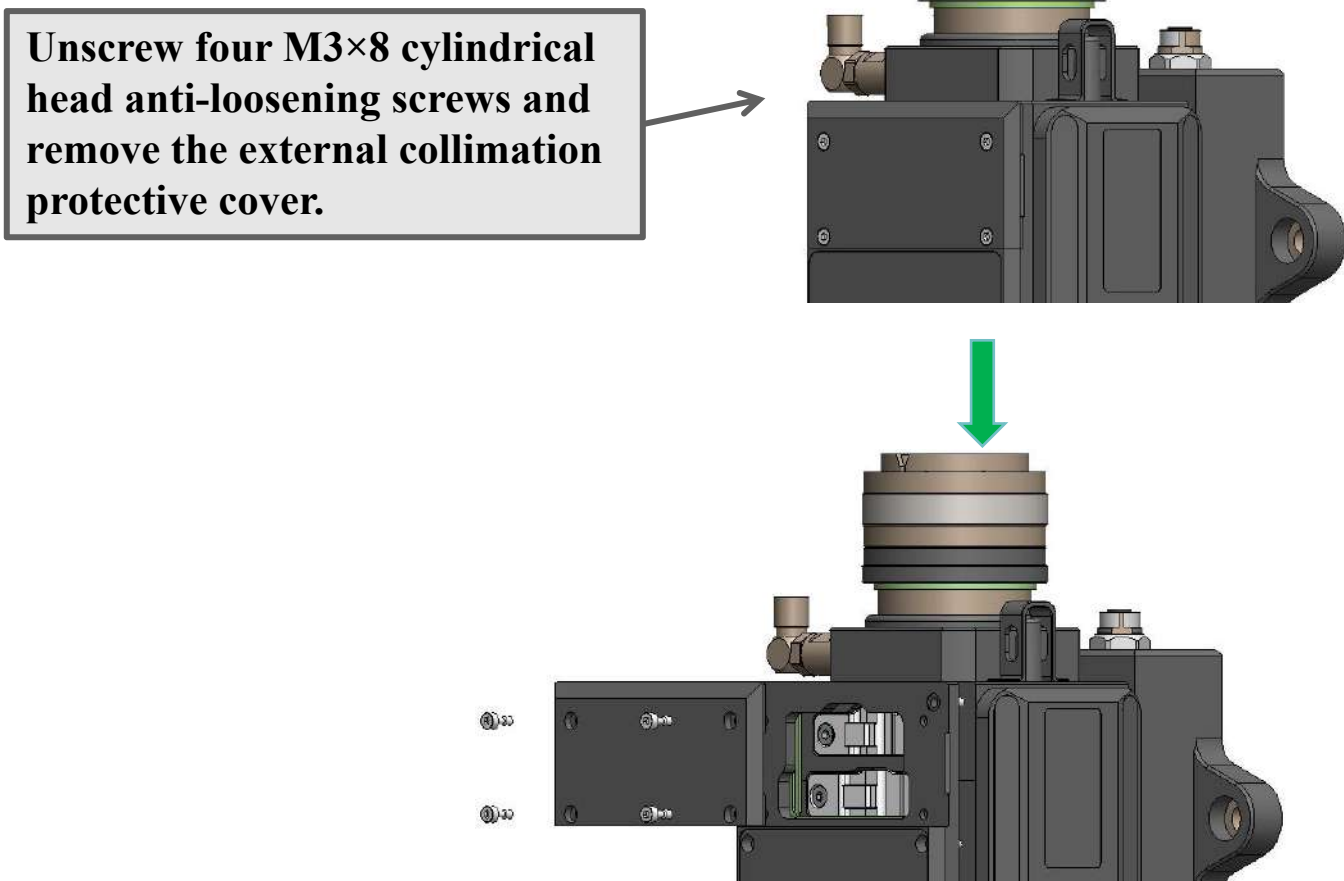
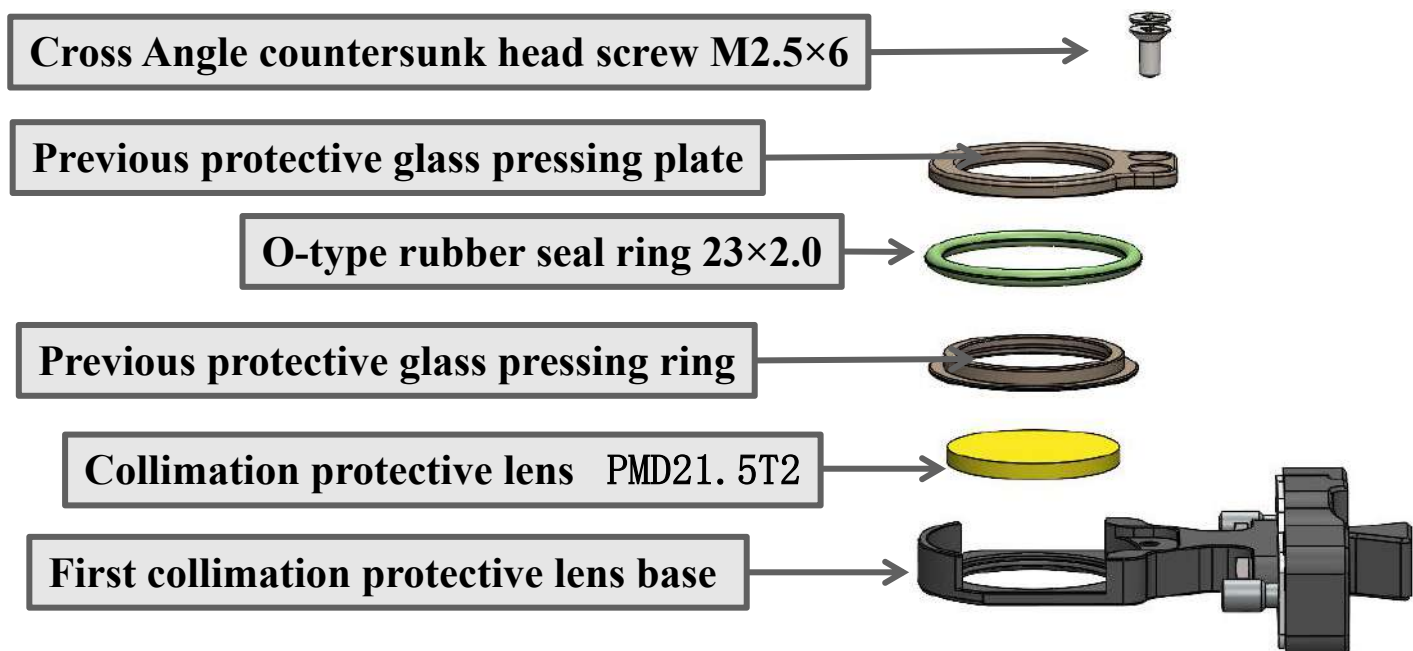

Figure 3.3
Figure 3.5
5.1.1 Disassembly and assembly of the first and second collimation protective lens, as shown in Figure 3.3.
(1) Disassembly and assembly of the first collimation protective lens, as shown in Figures 3.3, 3.4, and 3.5.
(2) Disassembly and assembly of the second collimation protective lens, as shown in Figures 3.3, 3.4, and 3.5.as shown in Fig. 3.5.